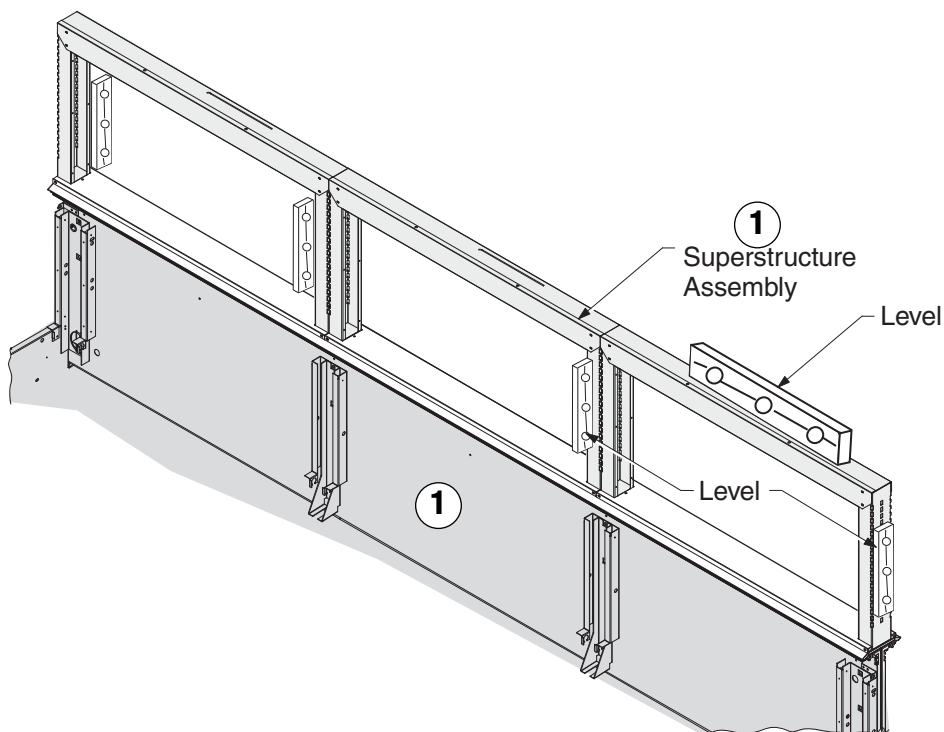

Figure 5 — Level Superstructure and Plumb Uprights
4. Position *Superstructure Assembly* on top of center flue as shown in Figure 5. Align outside edge of end uprights with ends of top panel. Use a level to ensure the uprights are plumb.